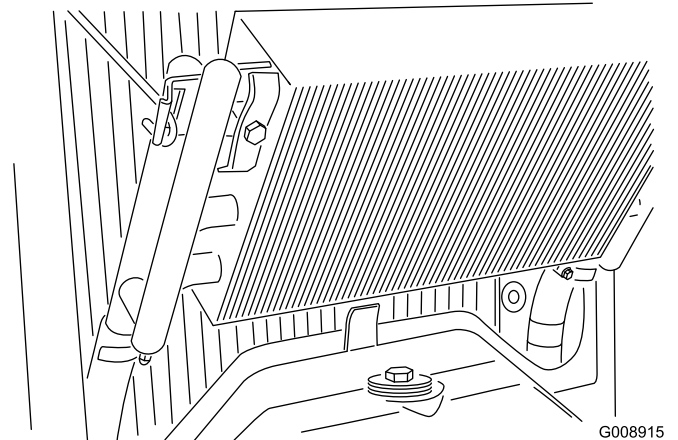

Figure 67
4. Unlatch the oil cooler and pivot it rearward (Figure 67).